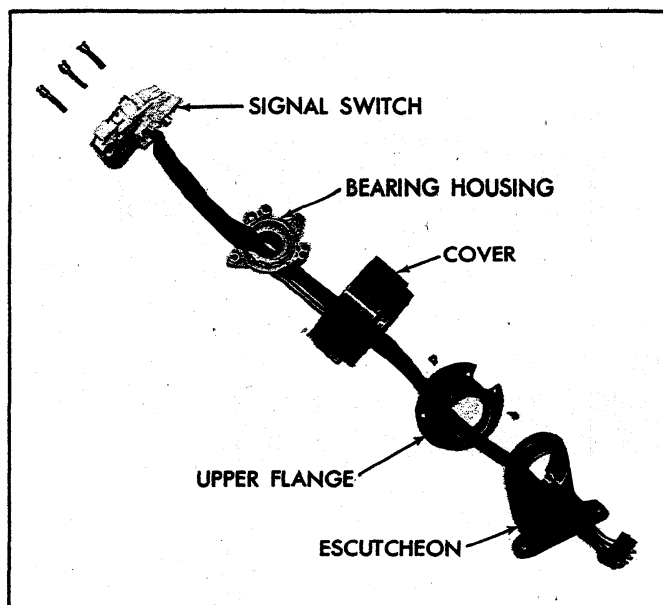

Fig. 51—Assembling Upper End
7. Assemble upper bearing housing and turn signal switch into cover and secure entire assembly to mast jacket upper flange with three signal switch mounting screws as shown in Figure 51.